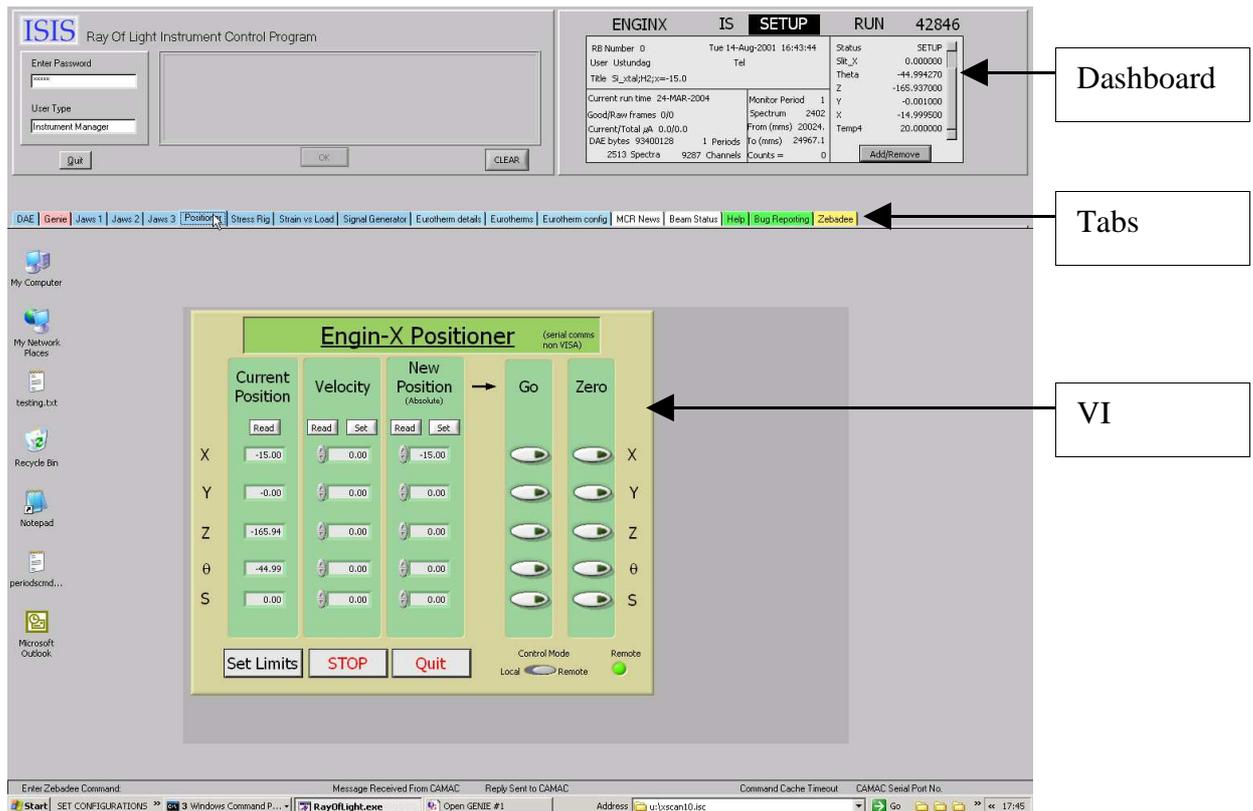

Figure 1: View of Ray of Light Instrument Control Program.
*Ray of Light* is based on the LabView programming language, and consists of a number of graphically-based programs known as “**Virtual Instruments**” or “**VIs**”, which control various parts of the ENGIN-X instrumentation. Some of these VIs are launched automatically when the computer is booted; others are started as and when they are needed. A typical view of the *Ray of Light* screen is shown in Figure 1. Various components of the screen are indicated on the right hand side and are described below.
- ii) **Tabs:** Click on one of the tabs to display the graphical interface for the corresponding VI. This is then shown below (labelled VI in Figure 1).